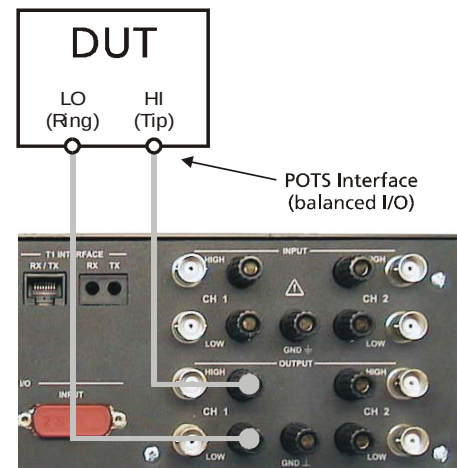

Fig 50 RL Setup
- Connect the *RT-2X* output channel 1 with the DUT as shown in **Fig 50**.